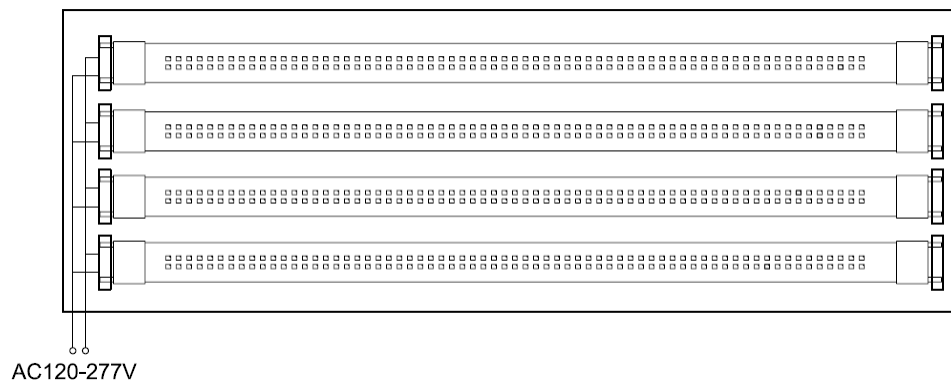

Fig.3
c. These LED tubes can retrofit maximum four lamps in one luminaire. The revised circuit diagram as shown in Fig.3.